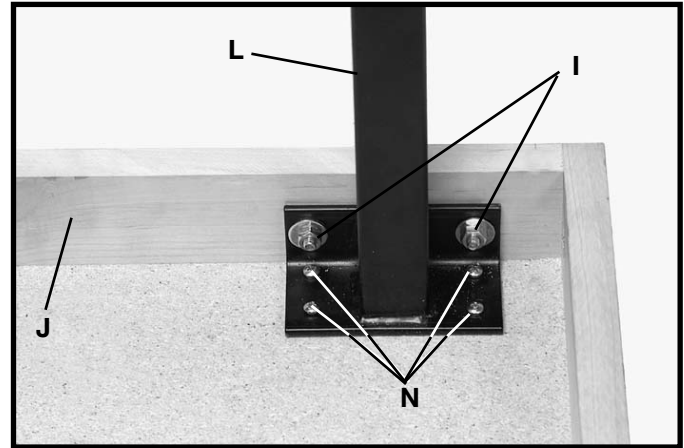

Fig. 84
9. Fasten the leg bracket (L) Fig. 84, to the underside of table top using the eight 3/4" long wood screws [four are shown at (N) Fig. 84]. Assemble the four 1-1/2" long flat head Phillips screws, flat washers and hex nuts (I) to the end piece (J) of the table and retighten. Fasten the remaining leg to the extension table in the same manner.